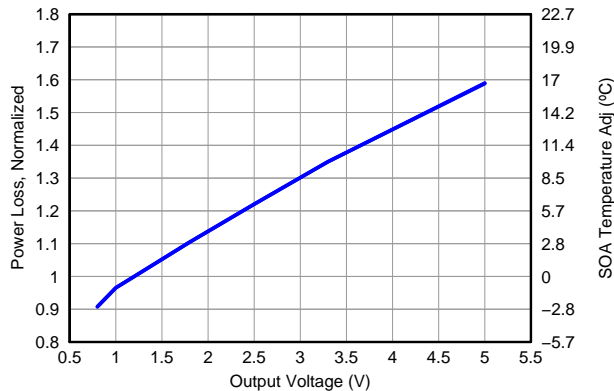

Figure 14. Normalized Power Loss vs Output Voltage
- Normalized Power Loss for output voltage \approx 0.7 (Figure 14)
- SOA adjustment for output voltage \approx -1.0°C (Figure 14)